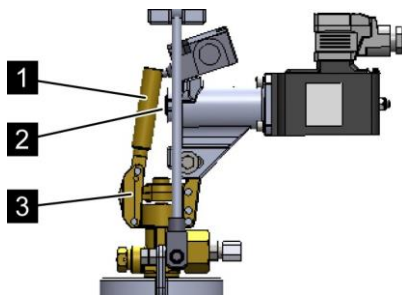

Fig. 74: Valve lever
Unscrew the valve lever (Fig. 74/1) from the valve (Fig. 74/3) of the pilot cylinder.
13. ➔ Ensure that the EM release device is not tensioned, i.e. that the release pin (Fig. 74/2) is projecting.